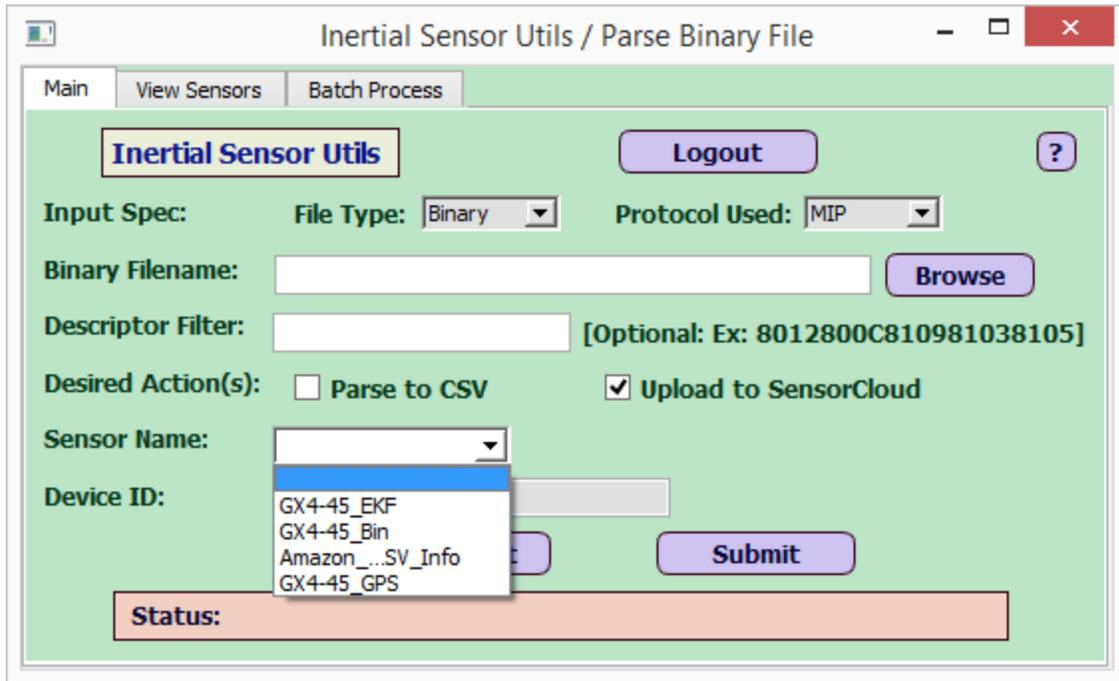

Figure 29 -Uploading A New Sensor To SensorCloud™
- When logging with 'SensorCloud' checked, it shows a check-box: 'Upload to SensorCloud' as one of the Desired Actions, as shown in Figure 29 below. When the user checks that box, the Sensor Name field which is a drop-down, gets enabled, so the user can either enter a new sensor name or pick an existing sensor from the drop-down.